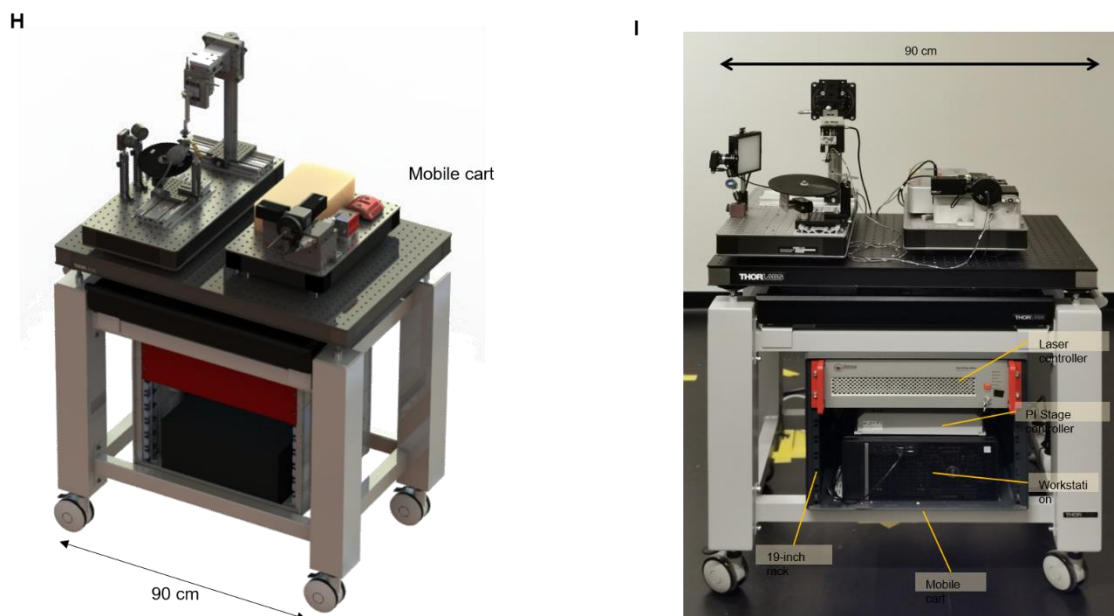

*Figure32: Running Wheel result.*
**Step5.** Fix the other construction rail (item 56) to the breadboard and mount all components for the head-fixed running wheel on the construction rail, as illustrated on Fig.S7-G in Zong *et al.*, 2022 and Fig.29 to Fig. 32.